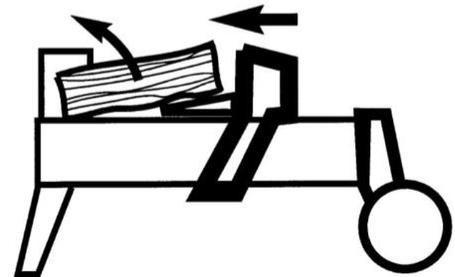

Figure 7
1. Release the Operator Handle so that the Ram fully retracts (*Figure 7*).
2. Insert a plastic or wooden wedge under the jammed log (*Figure 7*) and activate the Ram to push the wood wedge under the jammed log.
3. Repeat this process, using progressively larger wedges, until the jammed log is freed (*Figure 7*).